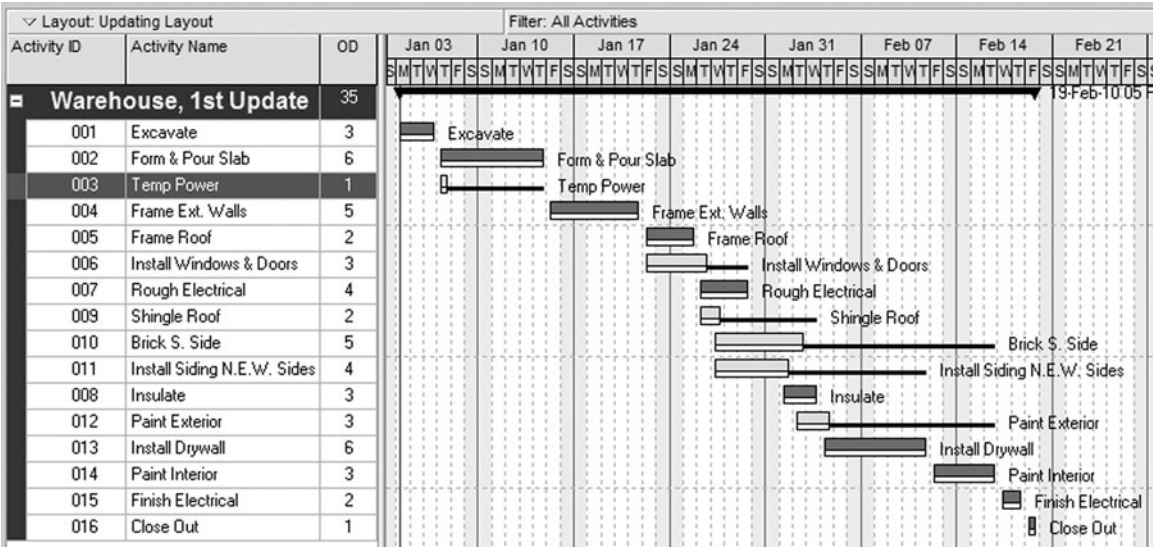

FIGURE 23.29 Bar chart with baseline bar showing under current bar
5. *Format the bars to show the baseline bar.* To show the baseline bar click on the **Bars** button  and put a check mark next to **Primary Baseline**. Then with **Primary Baseline** highlighted, select the second **Bar Style** from the top (this makes the baseline more prominent than the default), leave the color yellow or as desired, and **OK** it. Now your bar chart looks similar to Figure 23.29.
Figure 23.29 shows the baseline bars (yellow thin bar) directly under the current bars. As you update the schedule, you will see the baseline remain constant and the updated bar move so you can compare performance with the as-planned schedule.